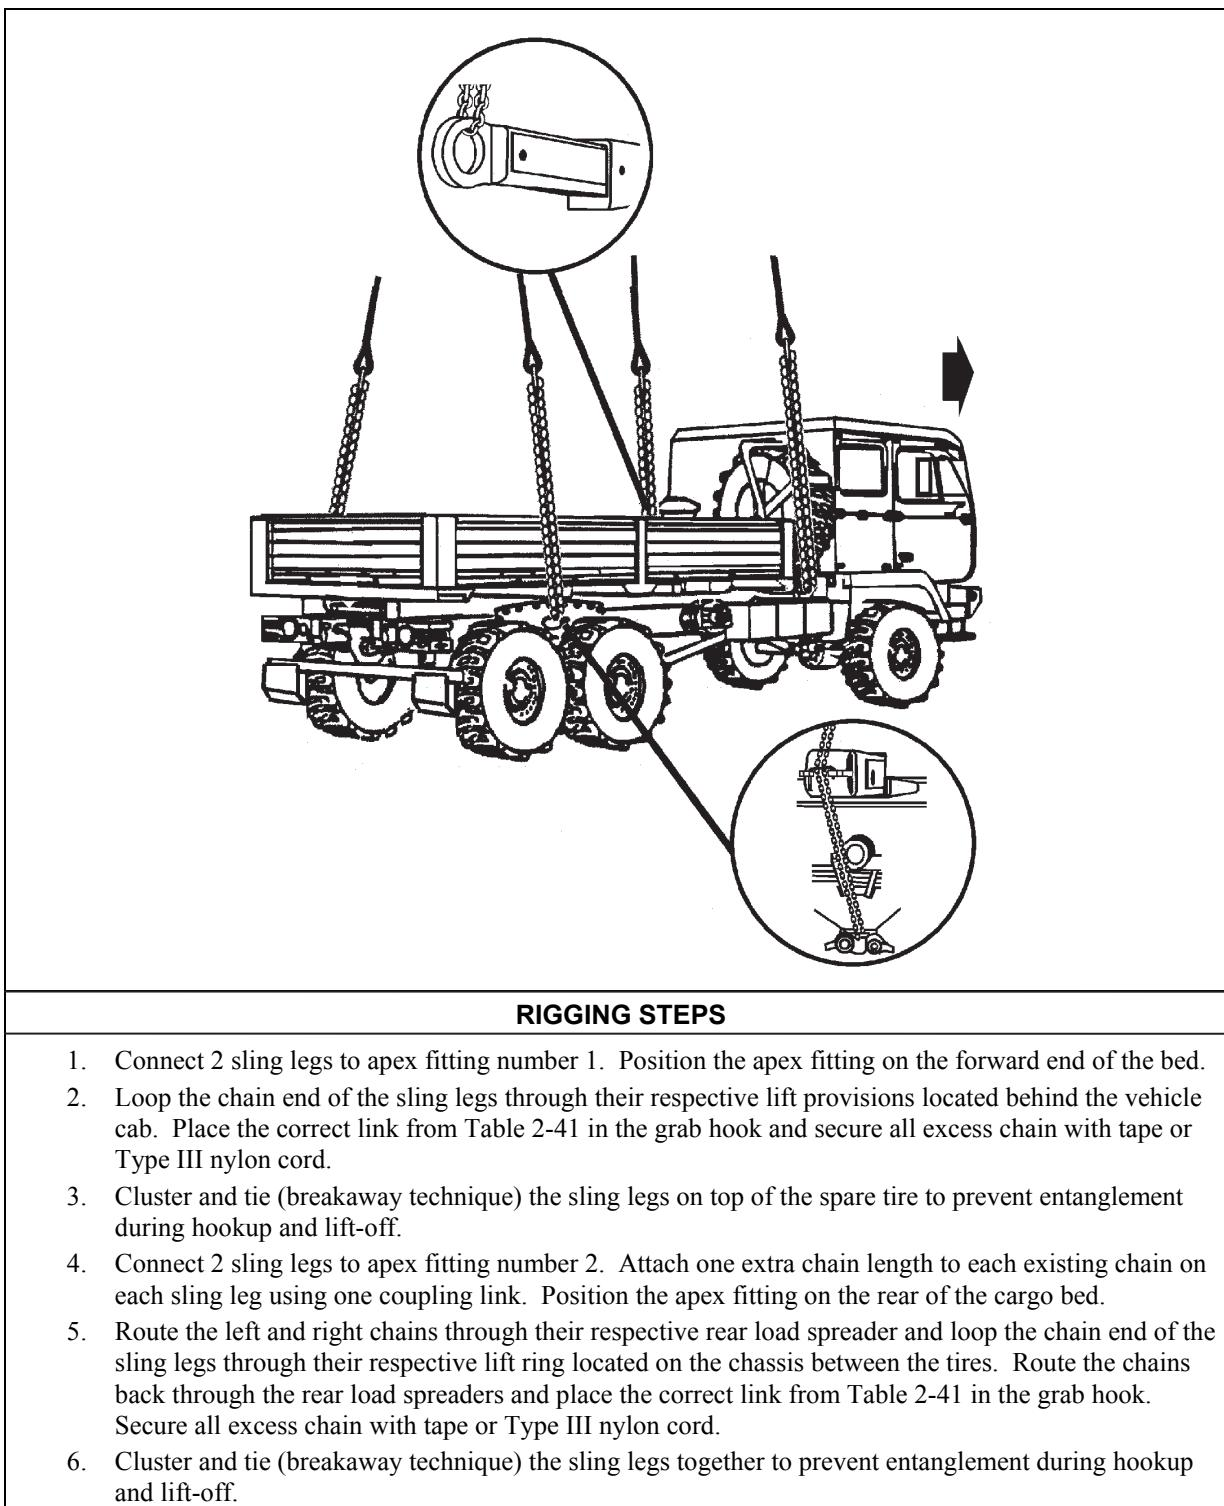

Figure 2-40. Medium Tactical Vehicles
- **Rigging.** Rig the load according to the steps in Figure 2-40.